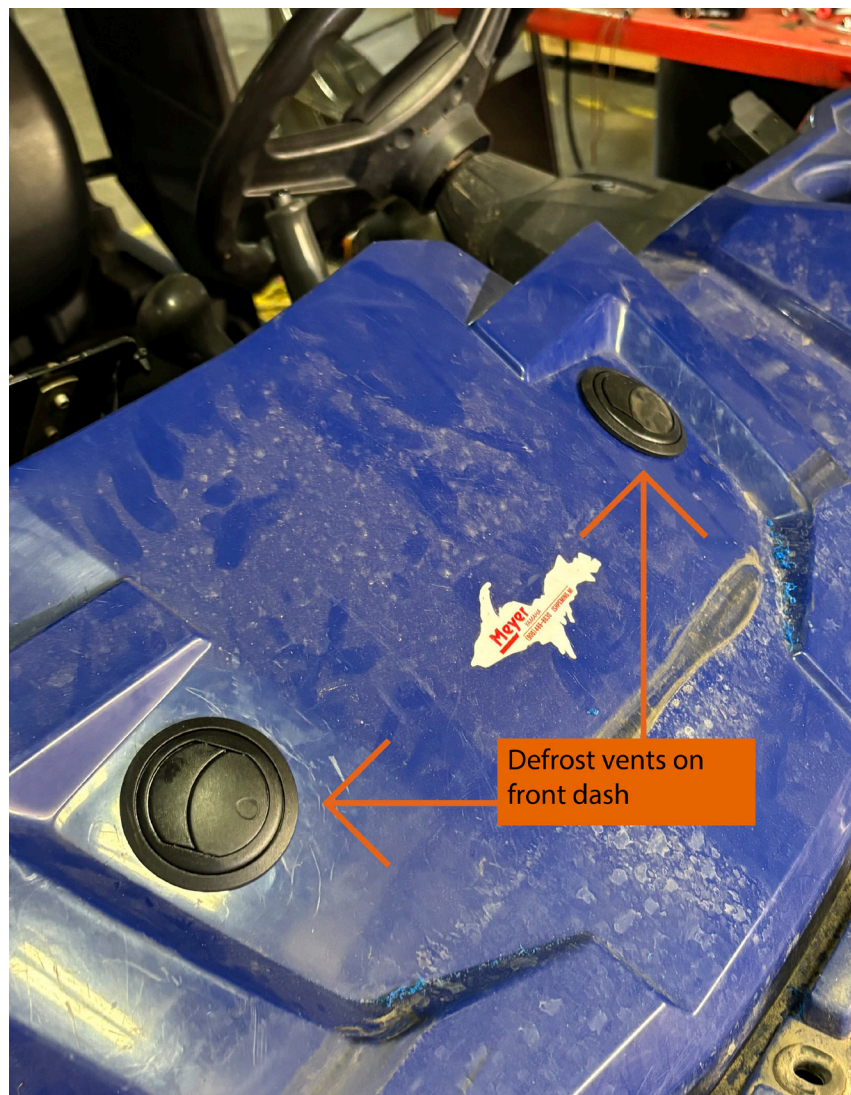

FIGURE 3
6. Use the vent cut out and locate and cut two locations on dash. FIGURE 3